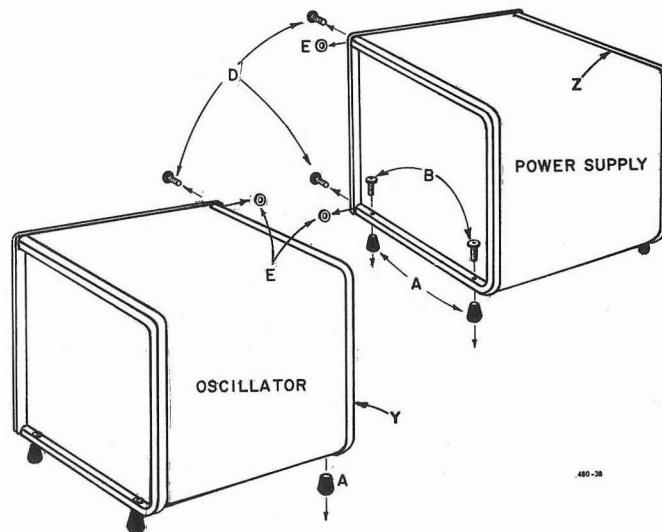

Figure 2-1. Preparation for bench mounting hardware.
b. Release the two end-frame attaching screws (D) at the left-hand edge (as seen from the front) of the oscillator and the power supply (Figure 2-1).
c. Withdraw the screws and remove the spacers (E) between the panels and the end frames.
- j. Remove both rubber feet (A) at the right-hand side of the power supply and the left-hand side of the oscillator so that the feet won't interfere with one another (see Figure 2-1). Retain screws (B).